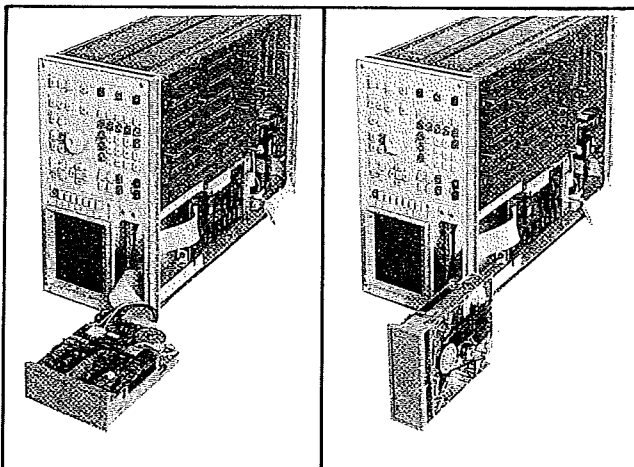

Figure 5-20. Flexible-disc Drive Access.
4. Place the drive unit on a clean work surface as shown in Figure 5-20.